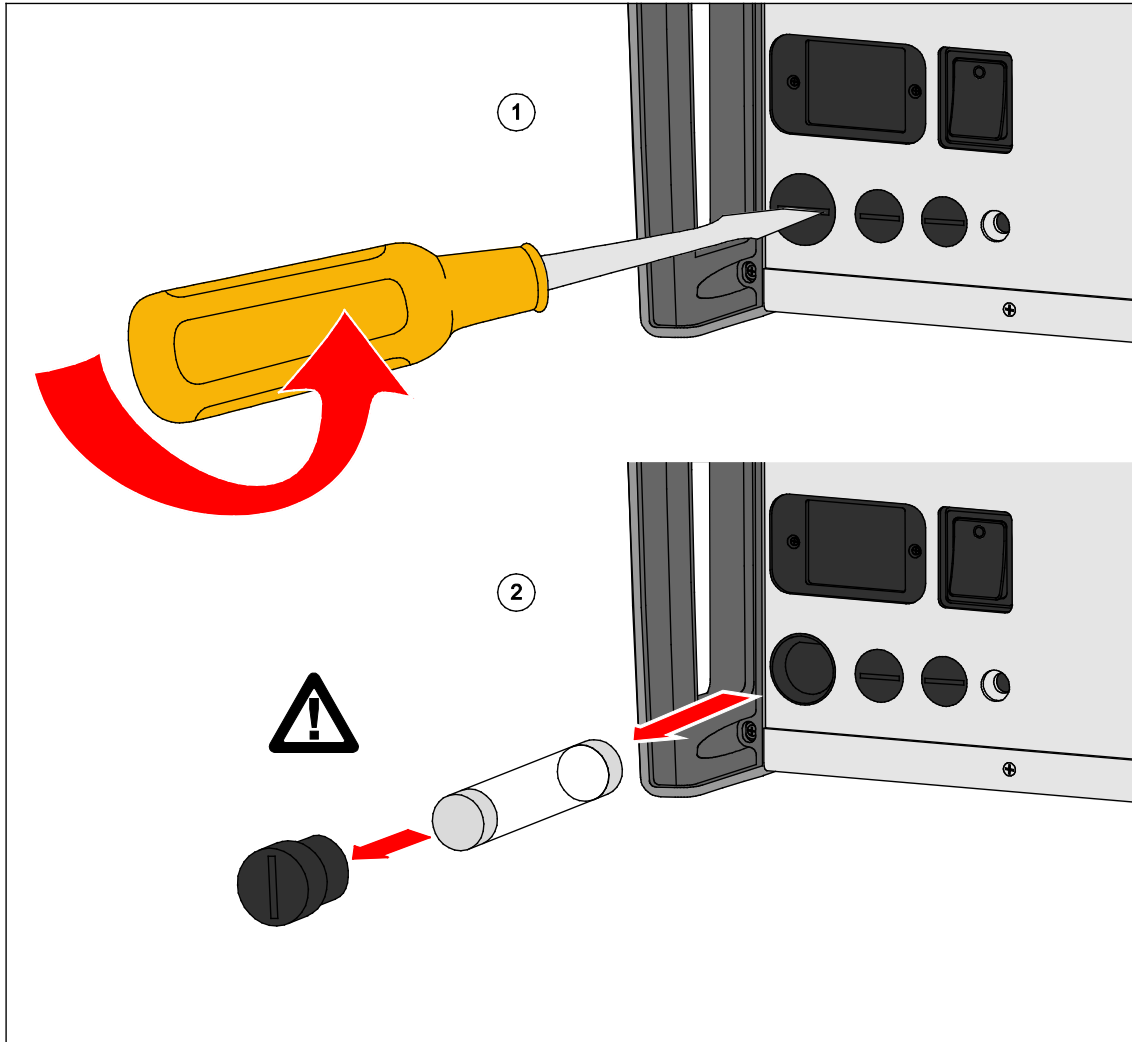

Figure 5-4. Fuse Replacement
4. Remove the fuse and replace it with new fuse of the correct rating. See Table 5-10 and Figure 5-4.